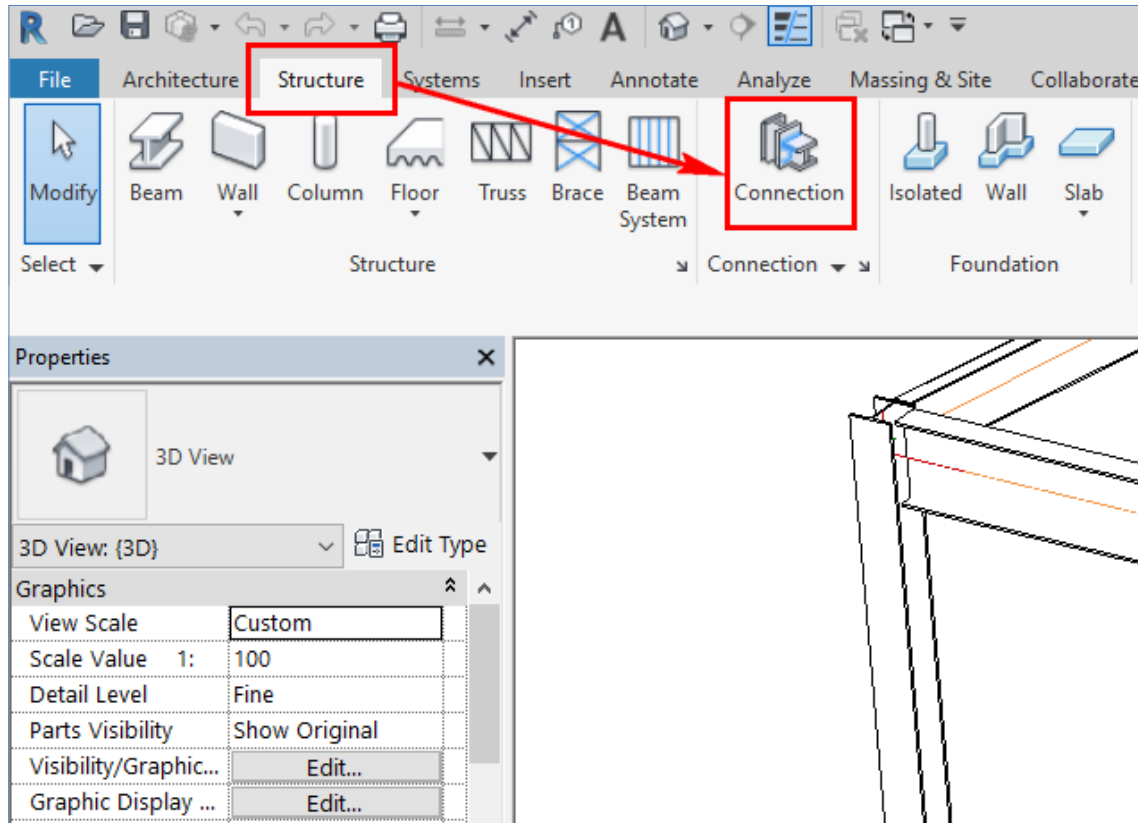

FIGURE 33: SELECTING THE COLUMN TO INSERT THE BASE PLATE CONNECTION
1. Select one or more steel sections to insert the connection and then from the **Structure** ribbon tab > **Connection** ribbon panel, click the **Connection** button, as shown in Figure 33. This figure also shows the column selected to insert the base plate connection.